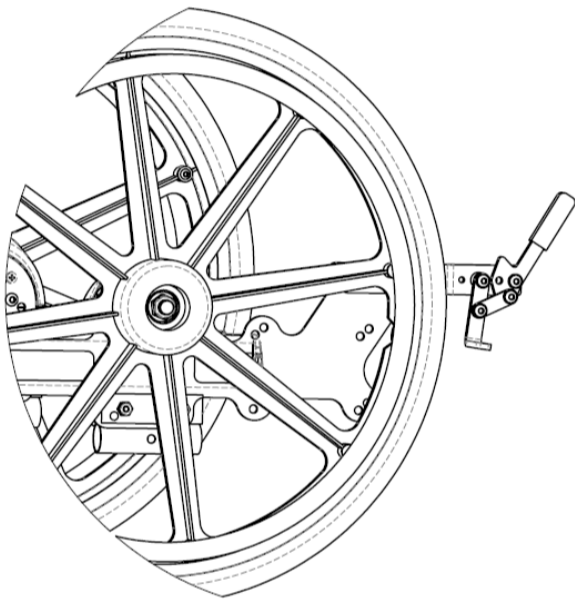

Figure 14.37: *Attendant Wheel Lock (Push to Lock)*
3. To engage the attendant wheel lock (see Figure 14.37), pull the lever towards the wheel until it locks into place.